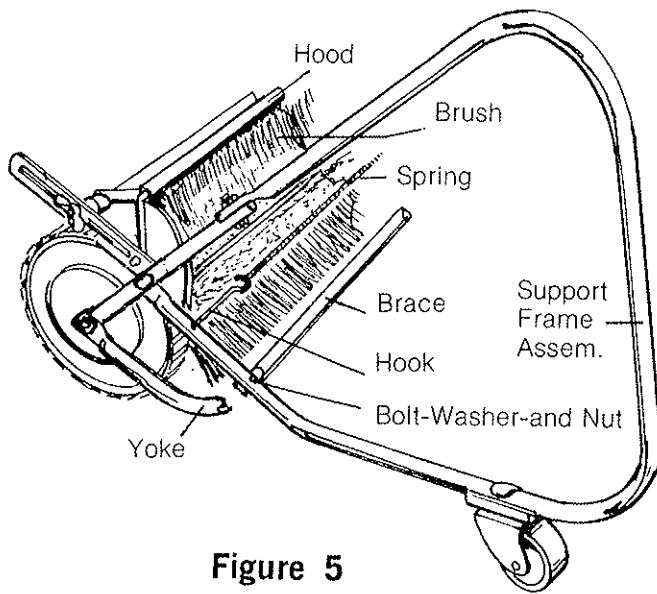

Figure 5
- Fig. 5 & 6 - Attach the Brace to the under side of both Support Frame Assemblies by using (2) Contour Hd. Bolts, (inserted from the top), (2) Int. Tooth Lock Washers and (2) Plain Hex Nuts. Now attach the Spring to the Hooks on the Support Frame Assembly. Now position the Yoke in front of the Wheels. Lay the Sweeper Unit on its side to do this, then return the Unit to its floor position.